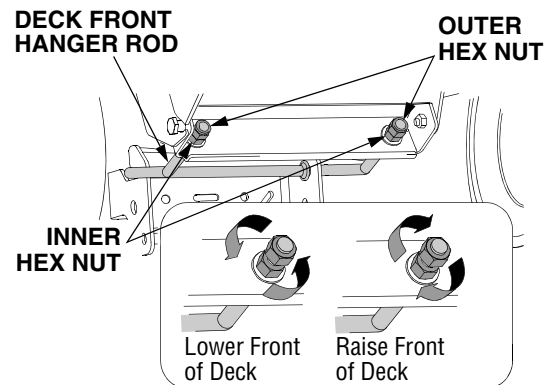

Figure 52
4. From the front of the tractor, loosen the outer nuts on the deck front hanger rod, and turn them away from the inner nuts. (See Figure 52).